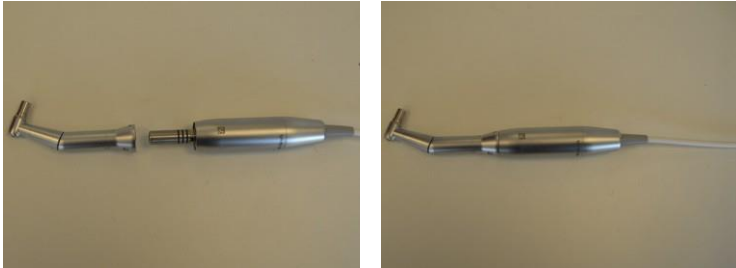

Figure 3-50. Pushing the Contra-Angle Head onto the Motor
6. Connect the handpiece's contra-angle head to the motor, by pushing the head onto the motor, as shown in Figure 3-50.